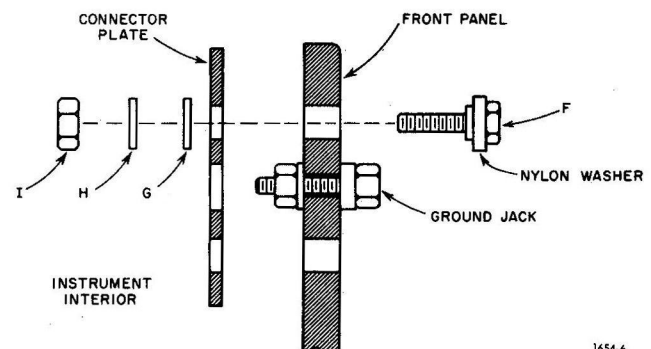

Figure 2-7. Removal of connector plate from front panel.
- c. On the front panel (see Figure 2-7): Remove and retain the upper and lower (not the center or ground jack) jacks with nylon washers (F), flat washers (G), lockwashers (H), and nuts (I).
h. Refer to Figure 2-7. Install the two jacks (parts F through I) that were previously removed from the front panel.